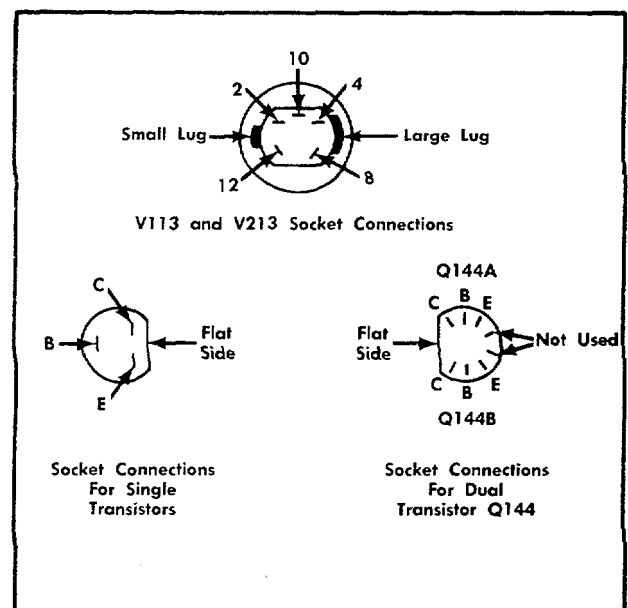

Fig. 4-3. Bottom (wiring) view of the nuvistor and translator sockets used in the Type 3A7. Index tab Q144 should face flat side of socket.
Before substituting a tube or transistor, it is suggested that circuit conditions be checked to be certain that an exact replacement tube or transistor will not be subject to damage. In some cases, these checks will also show whether or not the tube or transistor is at fault. Fig. 4-3 shows the wiring side of the nuvistor and transistor sockets as an aid to circuit tracing.
**Turn off the indicator unit power before replacing tubes or transistors. When replacing Q144, be sure the metal indexing tab faces to the rear of the unit when inserting the transistor in the socket. The emitter leads on this transistor are located at the opposite end from the tab (see Fig. 4-3).**